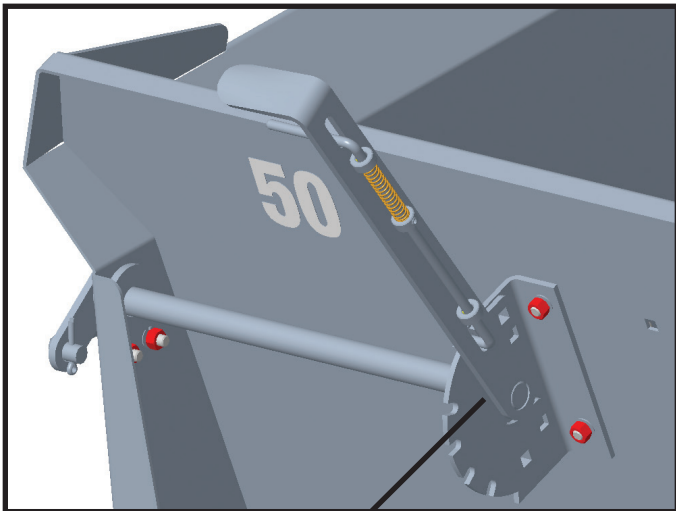
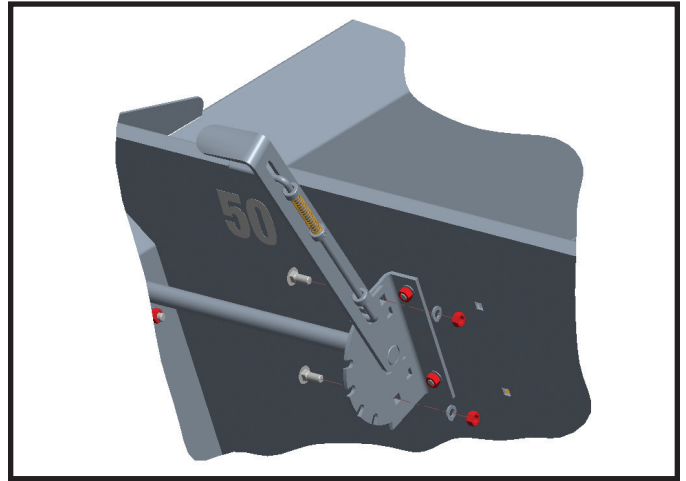

Figure 2. SLIDE NOTCHED PLATE (PLATE WITH 5 NOTCHES)
Figure 3.
3. The notched plate that mounts to the Web Chain (conveyor) Drive Lever (right side) has 5 notches. The deepest notch on the plate should be to the top of the plate when mounted to the unit. The plate slides in between the handle and mounting bracket (as shown in **Figure 2**). Line up square holes in plate with square holes in mounting bracket (as shown in **Figure 3**). Use (2) 3/8-16 x 1" long carriage bolts along with 3/8" split washers and 3/8-16 nuts (hardware supplied). Tighten using a 9/16" socket.